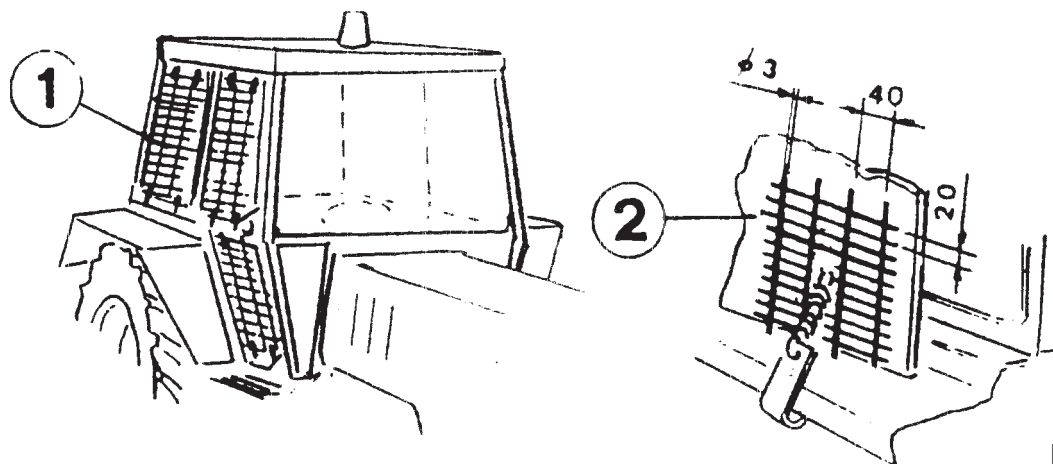

Fig. 8
In order to protect the operator from possible flying debris, it is mandatory to fit two protection grills (1) to the operator's cab, so that the debris thrown by the machine cannot reach the glass of the cab and break it causing injuries to the operator. (FIG. 8).
It is recommended to fit 5 mm sheets of polycarbonate (2) between the grills (1) and the glass. They will prevent small stones and fragments from hitting the glass of the cab. (FIG. 8).